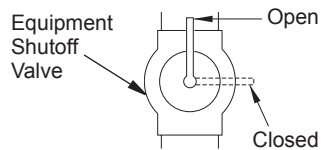

Figure 23 - Equipment Shutoff Valve
1. Close equipment shutoff valve (see Figure 23).
1. Open equipment shutoff valve (see Figure 23, page 17).